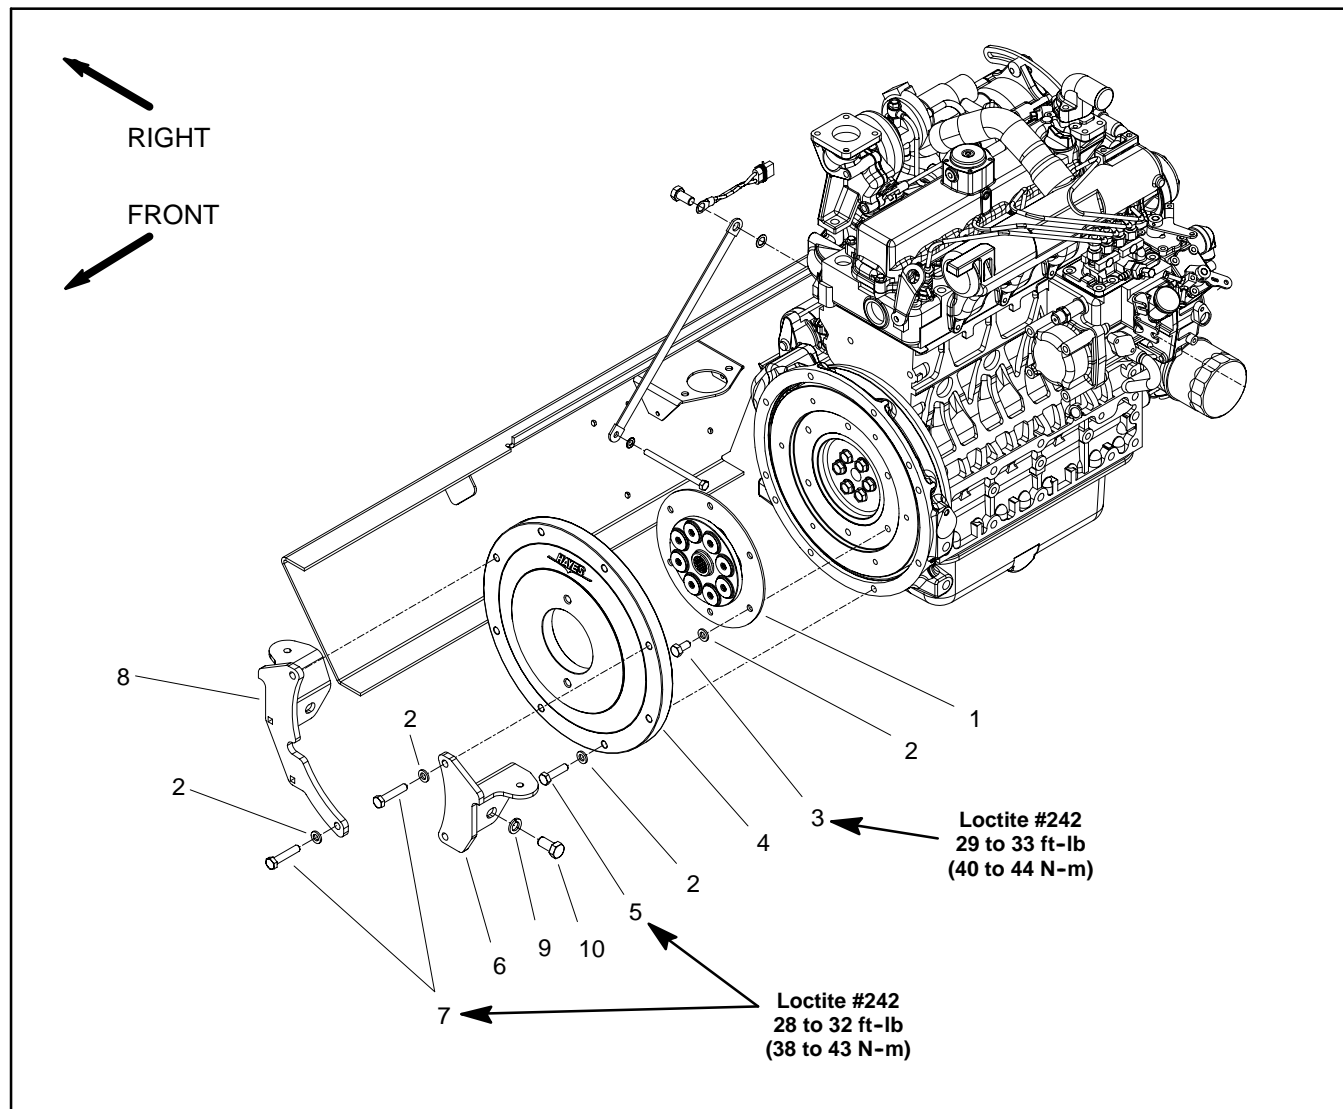

Figure 17
Coupler Removal (Fig. 17)
2. Remove flywheel plate and spring coupler from engine using Figure 17 as a guide.
Coupler Installation (Fig. 17)